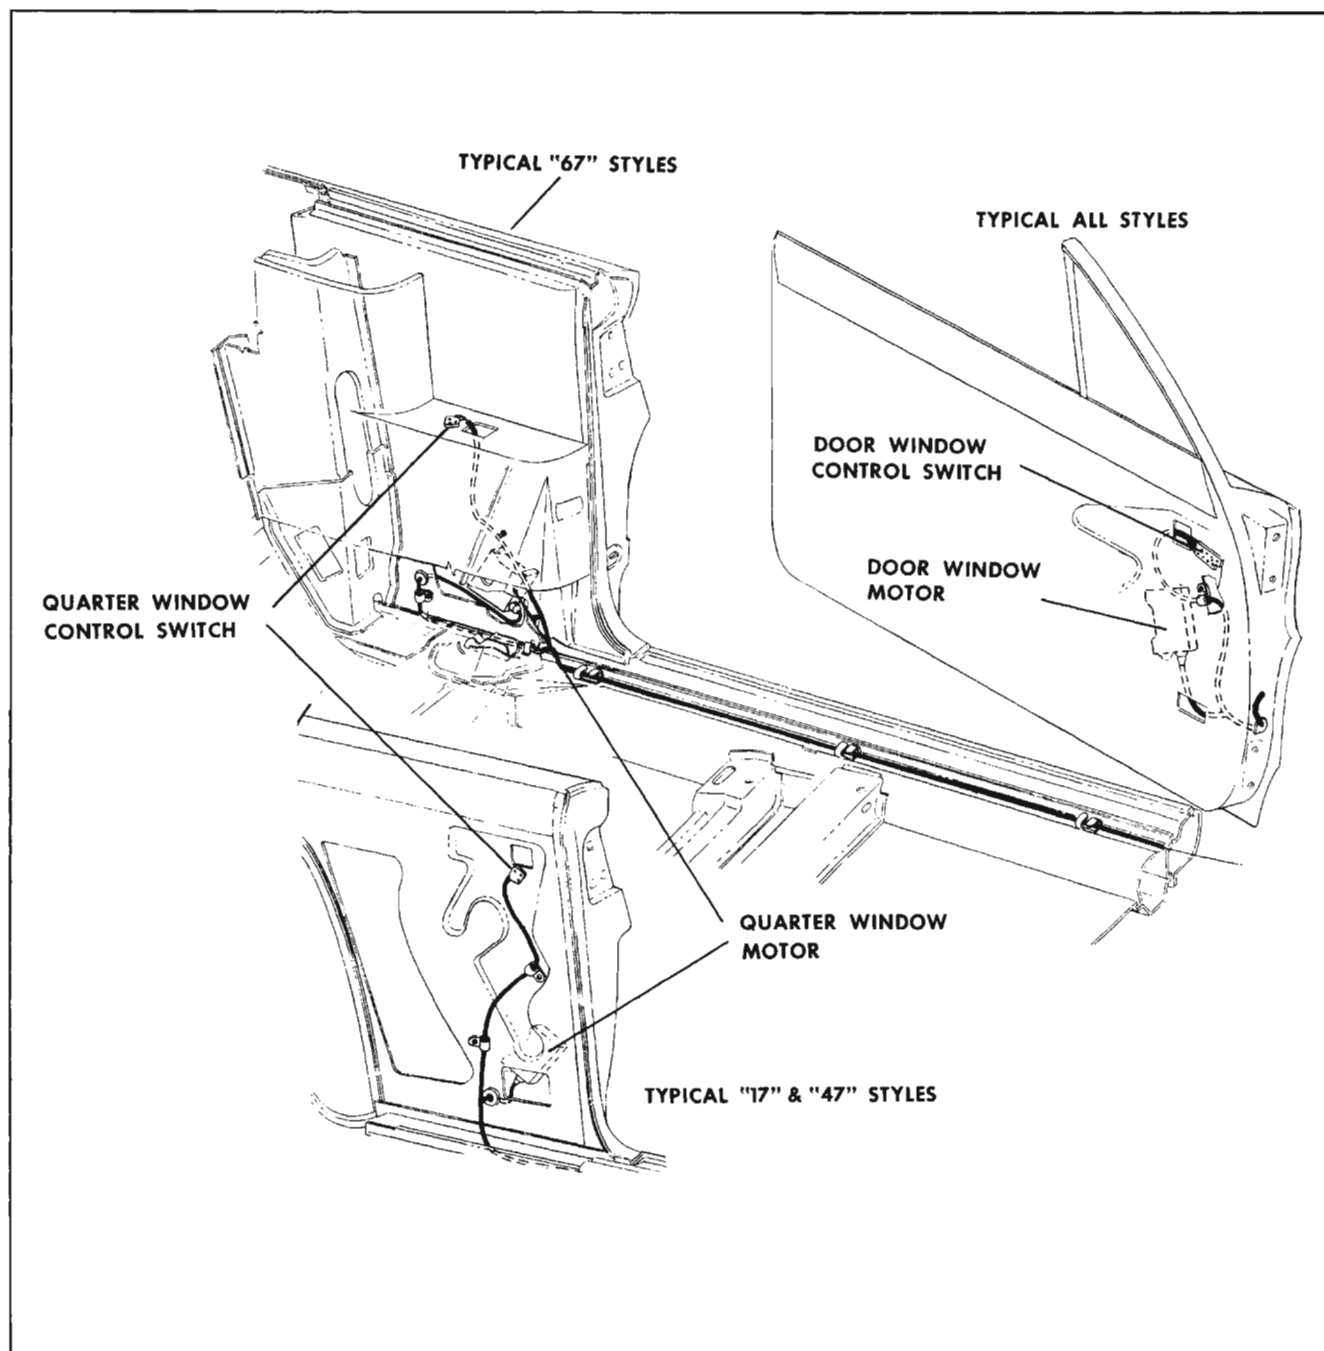

Fig. 16-278 Checking for Current at Window Control Switch
left harnesses are connected to the cross-over harness beneath the outer ends of the instrument panel. (Fig. 16-278)
1. Connect one light tester lead to feed terminal of switch block and ground other tester lead to body metal. (Fig. 16-278)